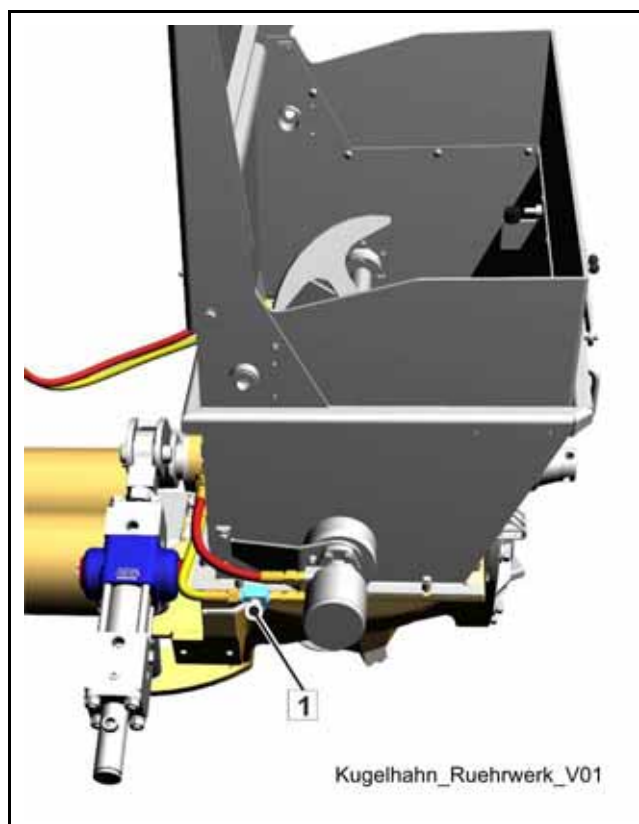

Fig. 293
- To do this, close the ball valve (1) (**Fig. 293**) on the agitator motor.